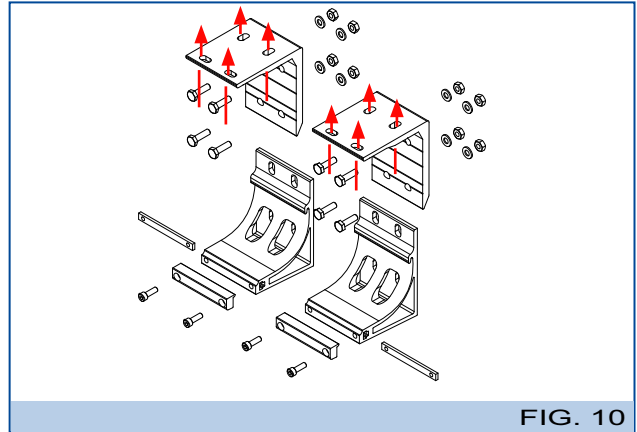

FIG. 10
- 15 ▪ Tighten the grub screw (I) to raise the elbow of the arm, and unscrew to lower it.
- 16 ▪ Once the correct parallel position of the arms has been found, tighten the grub screw (F-Fig.10) in both arm supports.